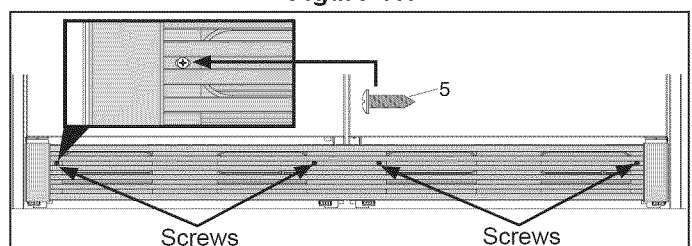

Figure 20.
**(Dual Unit)** Attach the kick plate to the cabinet with four (4) screws. (See Figure 20)